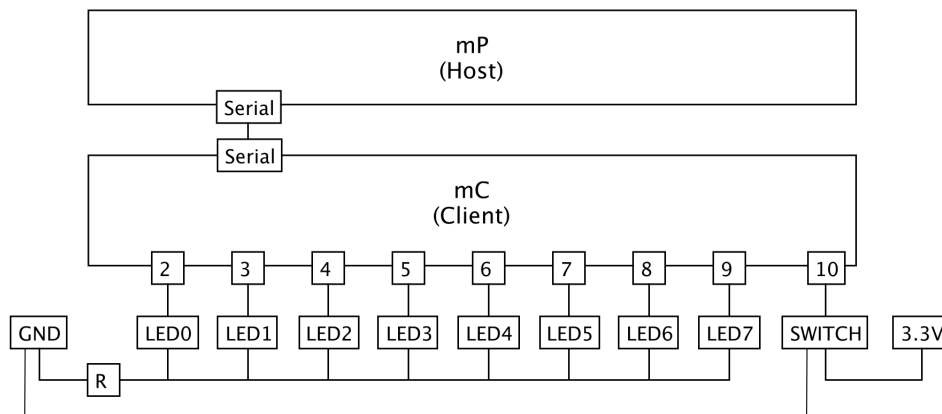

Figure 1.6: The circuit layout for this lab.
1. Put the circuit given in figure 1.6 together. On your tables, you will find a group of cables put together along with the circuit elements you will need for this lab. Once you arrange the circuit elements (LED, switch, resistor, etc.) on the breadboard, you can plug the cables to the UDOO and the breadboard. For the LEDs, use pins 2 to 9; for the switch use pin 10 on the UDOO. Show your setup to one of the assistants before you connect it to the 3.3 V on the UDOO.